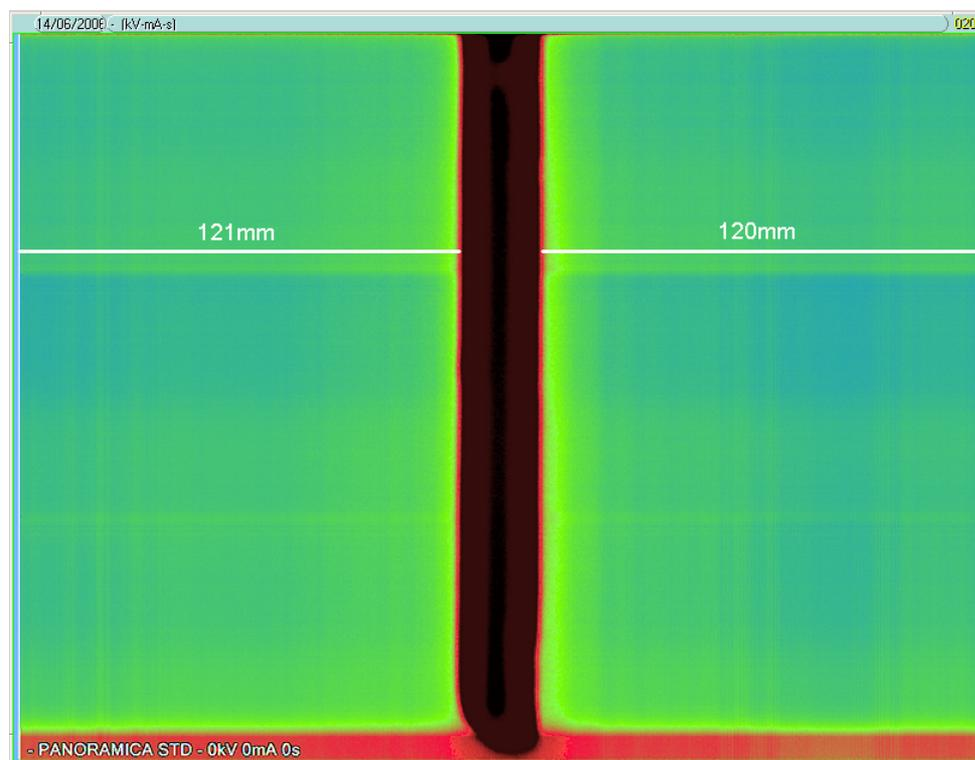

Figure 7-1
15. On the image taken with QuikVision, using the instruction in paragraph 7.1.2, measure the distance between the borders of the image and the borders of the central vertical stripe (Figure 7-1); to take the measure easily, you can use the QuickVision pseudo color function.